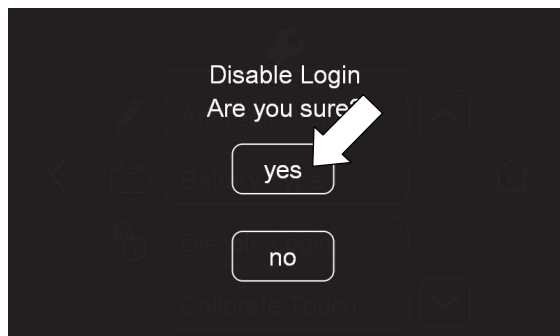

FIG. 154
- b. Press the “yes” button to enter the Default User screen (Figure 154).